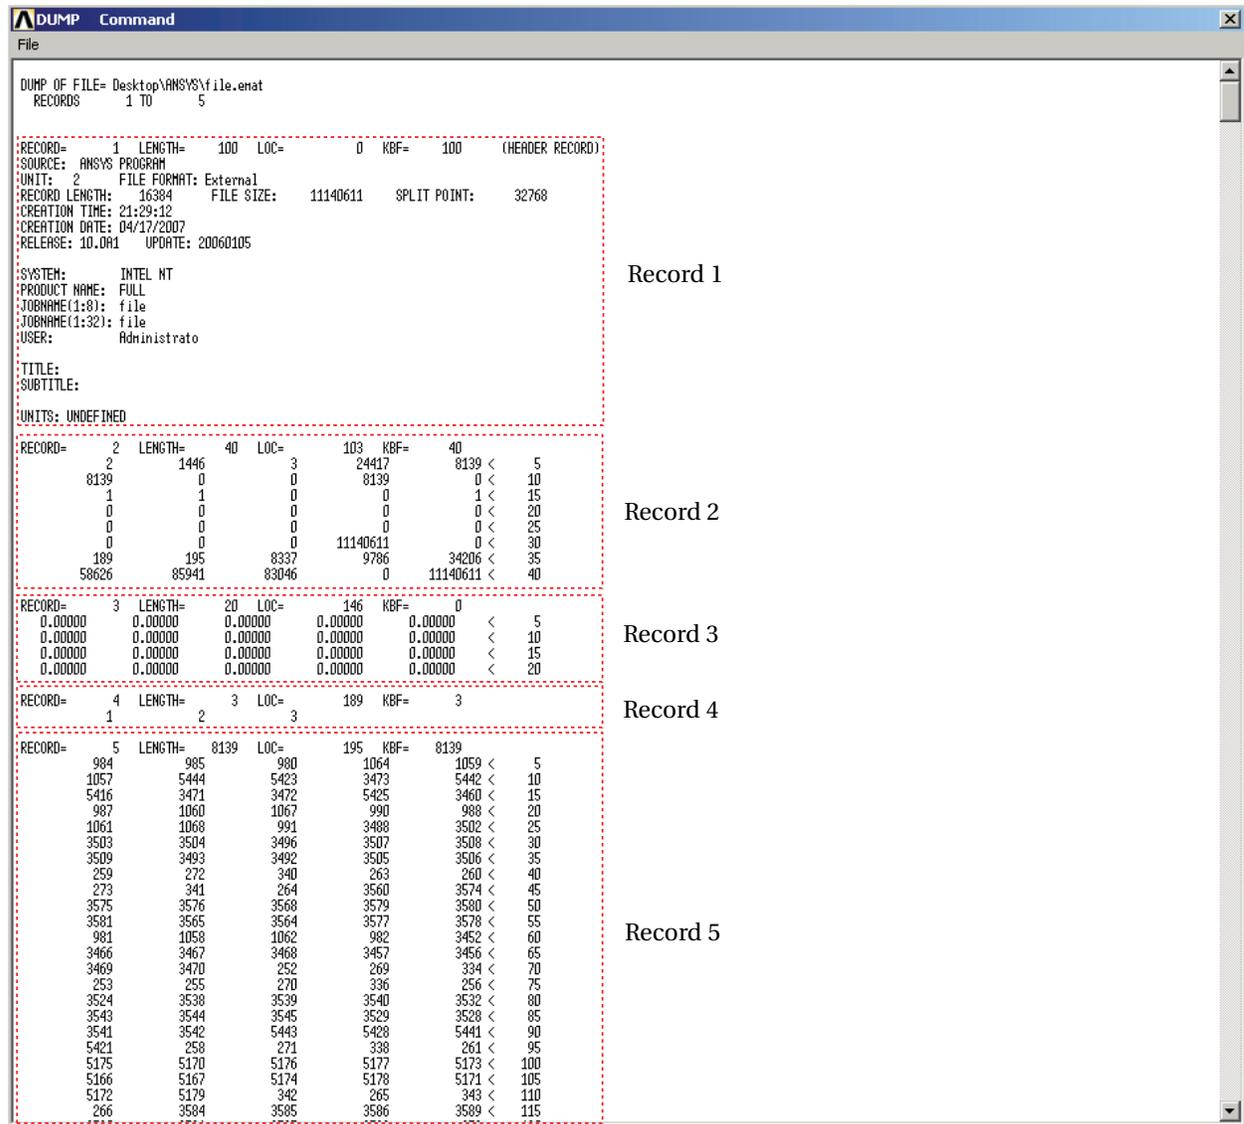

Figure 5 – Description of the 5 first "record" of the ".emat" file.
Figure 5 shows the Ansys window where is written the **.emat** file. Only the 5 first records of this file will be detailed in this section.
**Record 5 This list is essential for the analysis of the matrices given by Ansys** The list is composed of 5 columns of numbers plus a sixth column containing indices of position. It must be seen as a classical single column vector that would be spread on 5 columns to save some space. In the case of figure 5, the list represents a vector "**V**" which dimensions are  $[8139 \times 1]$ . This must be read as follow : **node  $V(i, 1)$  (number of the node that would appear in Ansys while selected) is actually at the  $i^{\text{th}}$  line/column of the matrices.** This information is linked with the nodes, in order to have the position of the dofs we must know that node  $V(i, 1)$  is linked to the dofs  $3V(i) - 2$ ,  $3V(i) - 1$  and  $3V(i)$ . This dofs will